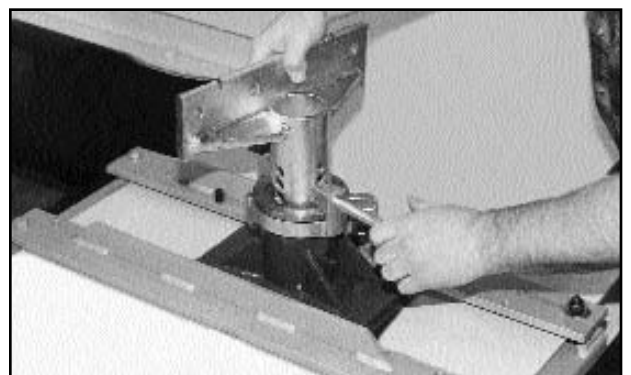

Figure 5
- 4) Slide anchoring system tube into anchoring stand and secure at correct height using height adjusting pin. (See example of UMS Adapter Tube - Figure 5.)